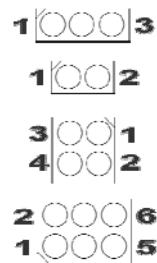

Figure 10: Typical jumper numbering scheme
Figure 10 illustrates the numbering scheme for various jumper blocks. Note that in each case pin 1 is always marked with a clipped corner on the PCB silk screen. *Figure 11* highlights the locations of all user configurable jumpers on the phyCORE-Z500P(T) Carrier Board.